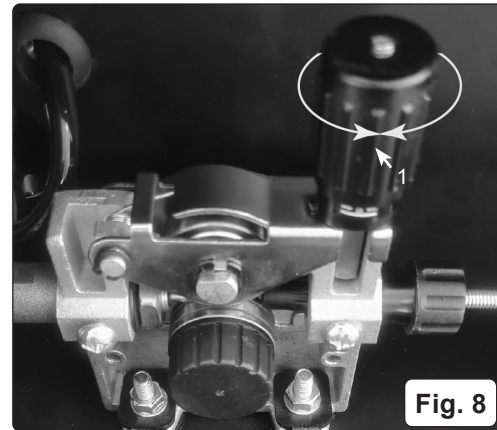

Fig. 8
- 5.3.4. Push down the pressure roller carrier onto the wire feed roller and hold it down. Lift up the locking/wire tension knob so that it enters the slot in the pressure roller carrier and snaps into the indent in its top surface. See Fig.8. Rotate the tension knob to medium setting i.e. between 2 and 3.
- 5.4.1. Adjust the wire tension by rotating the wire tension knob. Turn clockwise to increase the tension and anticlockwise to decrease the tension. See (1) in Fig.8.